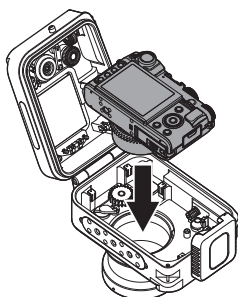

Fig.4
- 4 Turn off the power of the camera and place it as shown in Fig.4